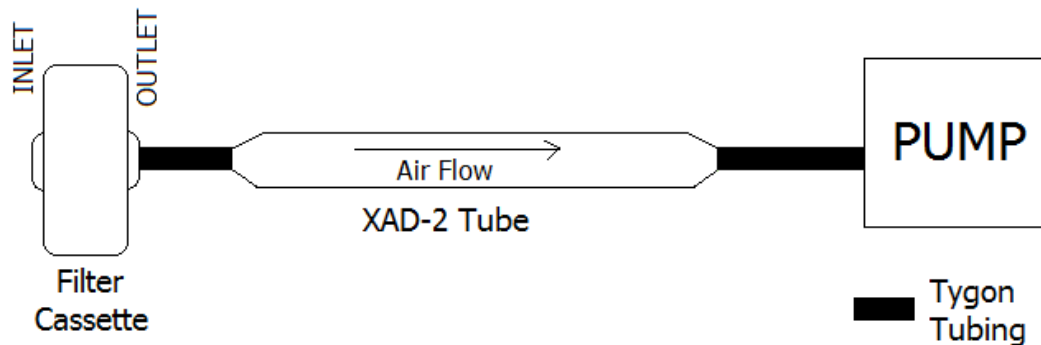

Figure 1.1: Sampling Train for PAHs
3. Attach a 0.5" tygon tube piece to the outlet part of the cassette and connect the XAD-2 to the tube to achieve a filter and tube train, See Figure 1.1 below. Try to keep the aluminum foil on the media while sampling.